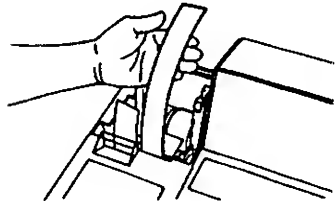

Fig. 9
6. When the paper comes out of the journal outlet for approx. 20cm (or 8 inches), release the [JF] key (Fig. 9).